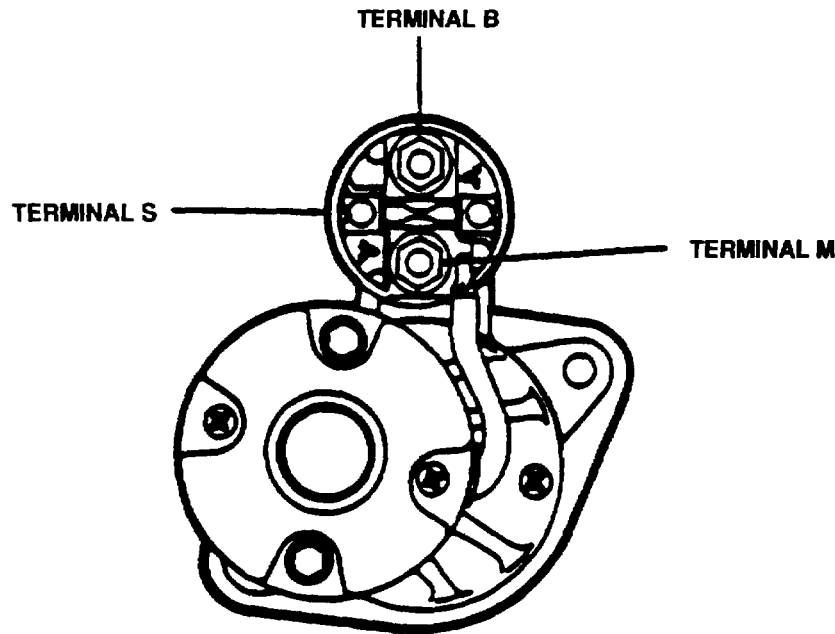

FIGURE 3-24. Solenoid Terminals
- (1) Check for continuity between solenoid terminals M and B with a multimeter. Refer to FIGURE 3-24.
- (2) No continuity should be indicated when solenoid plunger is in normal (out) position.
- (3) Push solenoid plunger in and observe multimeter. Multimeter should indicate continuity. If no continuity is indicated, solenoid must be replaced.